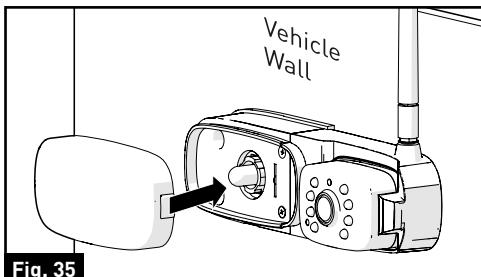

Fig. 35
7. Replace the lens cover over the traffic light base and press until you hear a "click". The camera is fully installed onto the vehicle. [Fig. 35 and Fig. 36]